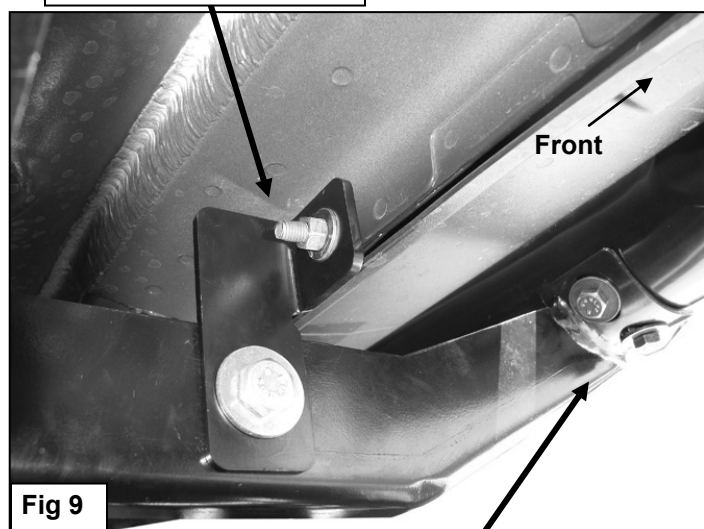

Fig 9
13. Re-install the driver side front Mounting Bracket and Support Bracket. Attach the Support Bracket to the pinch weld with (1) 8mm x 35mm Hex Bolt, (2) 8mm Flat Washers, (1) 8mm Lock Washer and (1) 8mm Hex Nut, **(Figure 9)**. **NOTE:** Insert the 8mm Hex Bolt with (1) 8mm Flat Washer through the pinch weld first, then through the Bracket. Cut the rocker panel cover as required and reinstall the cover with the factory plastic clips. Reinstall the Sidebar.